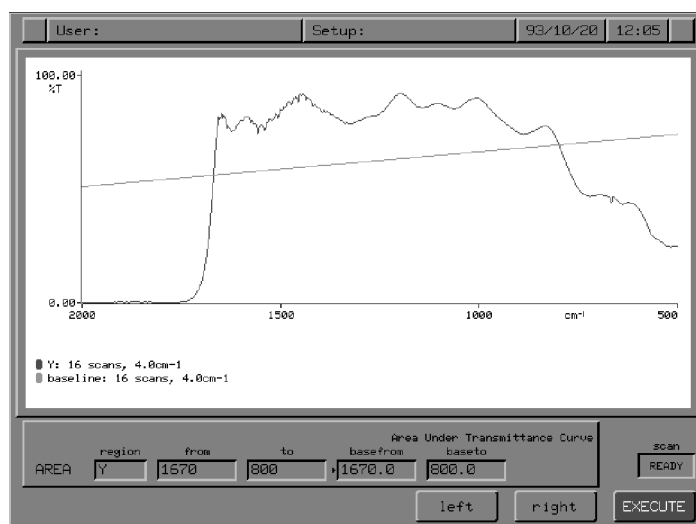

Figure 3-37 Default Baseline Drawn by the area User Interaction
- If **to** is smaller than **from**, the screen in Figure 3-37 appears.